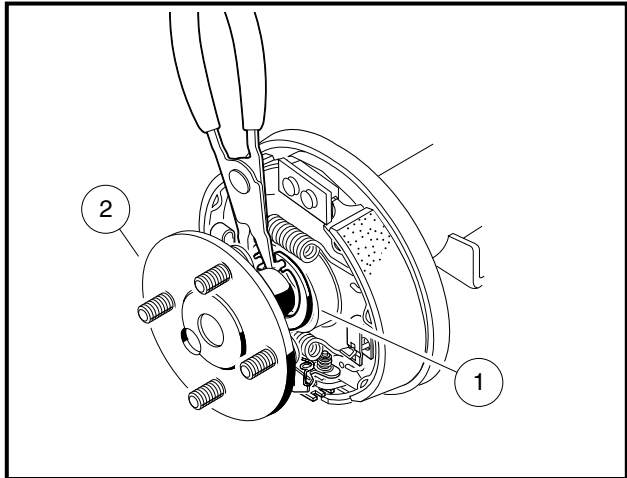

Figure 6-3 Remove Axle Retaining Ring
- 5.1. Using 90° snap ring pliers (CCI P/N 1012560), remove axle retaining ring (1) (**Figure 6-3, Page 6-4**).
- 5.2. Pull the axle shaft (2) from the axle tube (**Figure 6-3, Page 6-4**).
7. Install axle shaft (2) into axle tube and install retaining ring (1) (Figure 6-3, Page 6-4). See following **WARNING** and **CAUTION**.